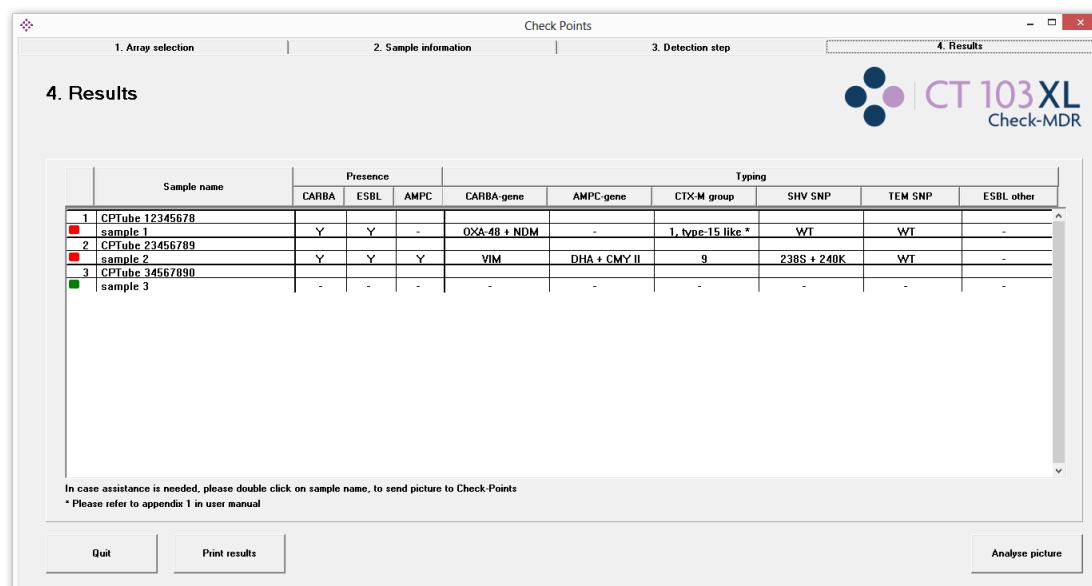

Figure 7: Summary of the results.
18. When all ATs have been analyzed, a new window with the summary of the results will appear (see figure 7), which may also be printed (click on the “Print results” button). The results summary will display the sample ID and the presence/absence of carbapenemases, MCR, plasmidic AmpC and ESBL as well as combinations thereof (see table 3 for a list of the genes that can be reported). Please note that for the CTX-M-1 group, additional information regarding the subgroup will be displayed (see Appendix 2). Click on the “Quit” button to end this run of analyses.